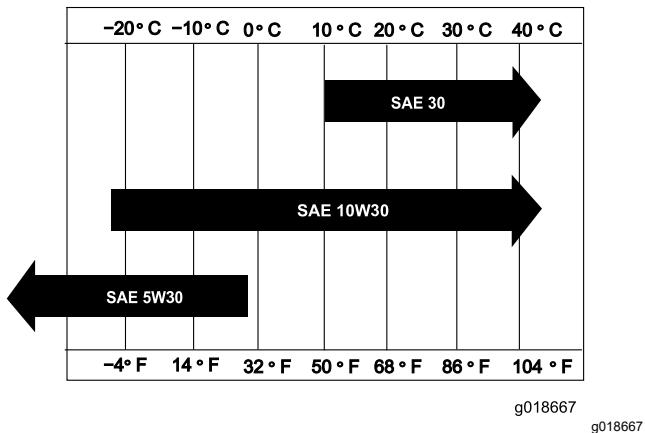

Figure 27
**Viscosity:** select the oil viscosity according to ambient temperature; refer to Figure 27.